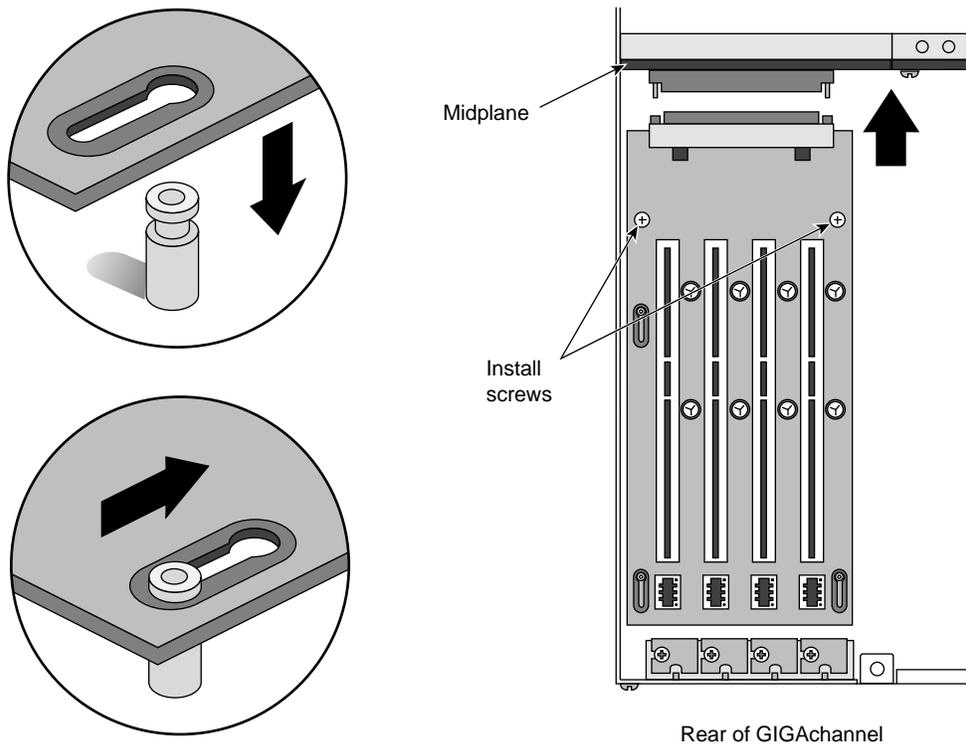

Figure 5-33 Replacing the PCI Backplane
- Slide the backplane backwards until the connector on the PCI backplane fully engages the mating connector on the midplane, as shown in Figure 5-33.
- Replace the two screws indicated in Figure 5-33.